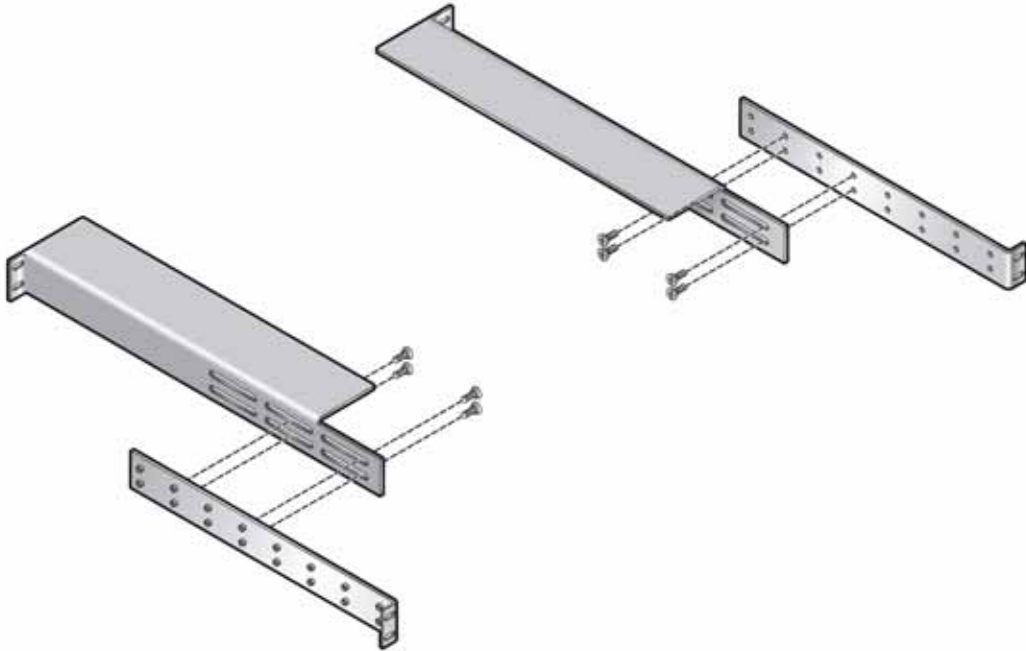

Figure 2 Assembling the Rack Mount Rails
- Step 10** From the bags of screws that came with the rack mount rails, insert the 10-32 x .25" pan-head screws (4 per rail) through the slotted rail piece into the piece with the threaded standoff. Do not completely tighten the screws. You want to leave some slack in the rails so that they can slide lengthwise to accommodate the depth of the rack. Figure 2 on page 15 shows assembling the rack mount rails.